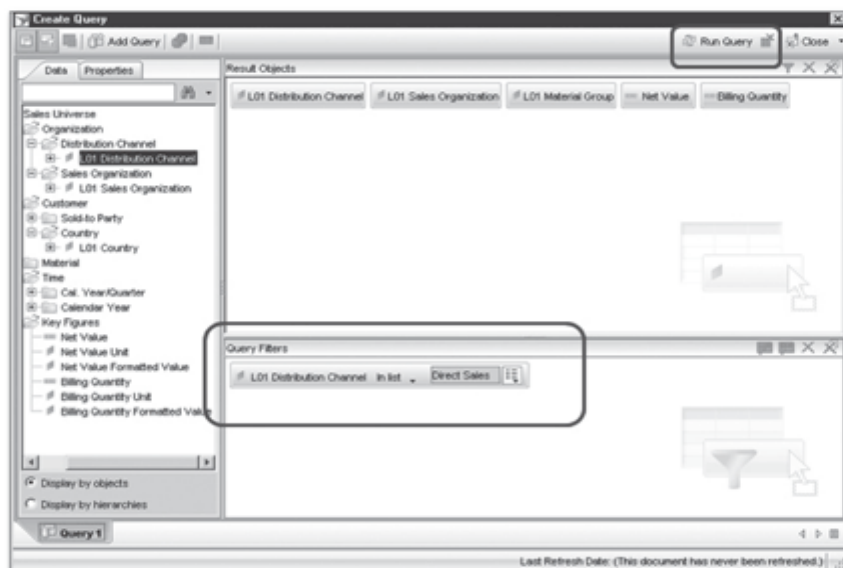

Figure 13.26 Execute Query
6. You can see the filter with value direct sales in Figure 13.26. The query is now defined and ready to be executed. Click on the Run Query button to execute the query.